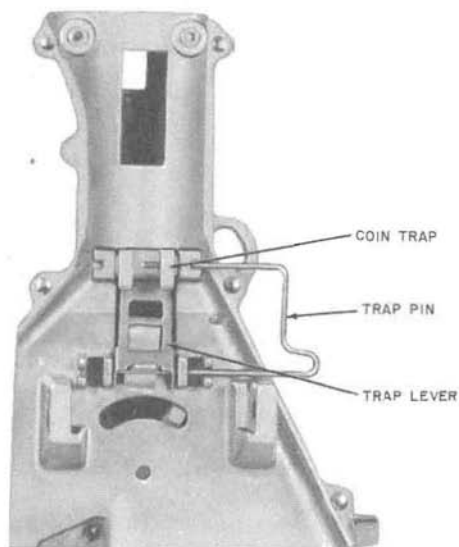

Fig. 9—Placing Coin Trap on Hopper (Typical)
- (5) Insert coin trap in hopper and engage pin in trap (Fig. 9)